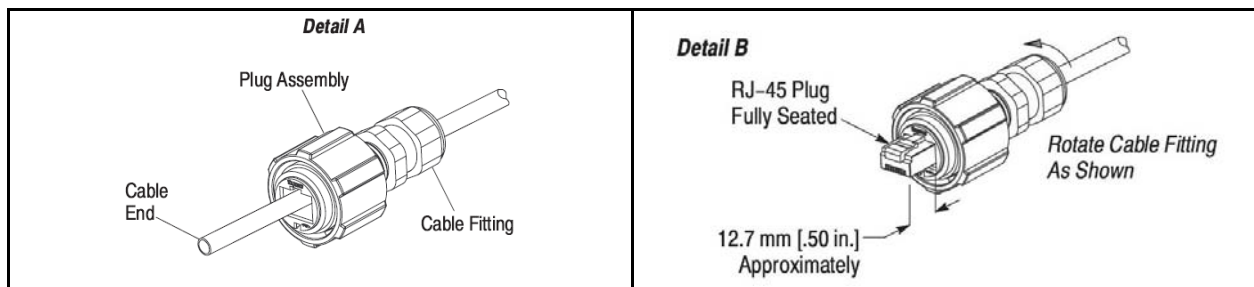

Figure D-3: Cable Preparation
1. Slide the plug assembly (cable fitting end first) onto the cable. See Figure D-3, Detail A.